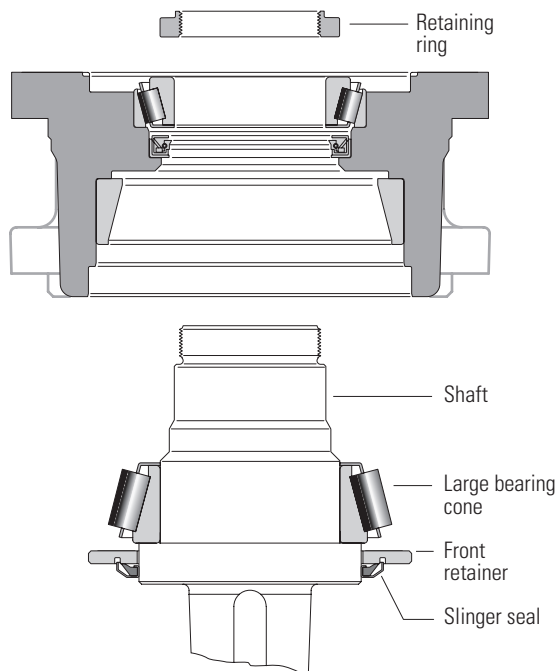

Figure 7
23. Remove retaining ring, the crimp lock should be rounded away from flat on shaft before turning retaining ring. Carefully press shaft from housing as shown (see Figure 7).